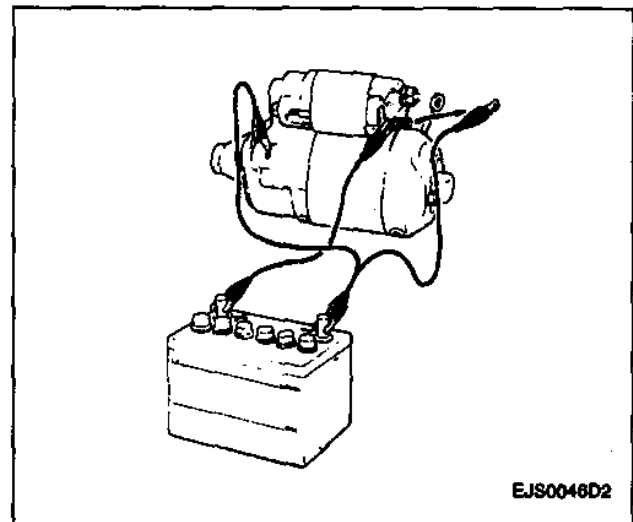

Figure 4—Hold-In Test
- Negative (-) test lead from field coil lead wire solenoid terminal (Figure 4).